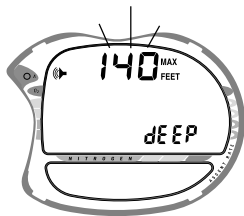

Fig. 20 - Set Depth Alarm
- The graphics **MAX FEET** (or M) and **dEEP**, and Alarm icon appear with the **Max Depth** value flashing (Fig. 20).